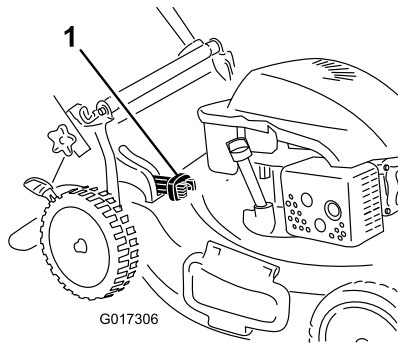

Figure 21
- For bagging the grass and leaf clippings, press the button on the bag-on-demand lever and move the lever forward until the button on the lever pops up (Figure 21).